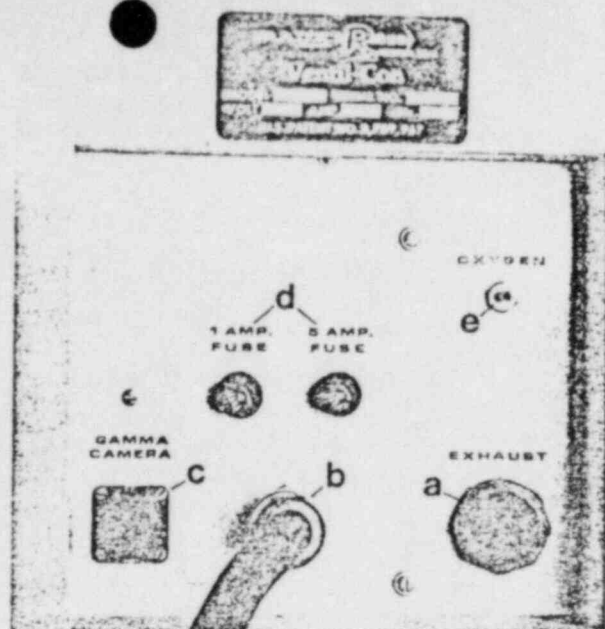

Figure 7. Connection box at rear of Ventil-Con.
- 2.8 The Ventil-Con exhaust connectors are located in the rear of the unit and are for use with 3/4" I.D. x 1" O.D. PVC tubing (Figure 7). A screw-in hose adapter has been provided as an accessory: If 3/4" I.D. tubing is to be used from the Ventil-Con to the external trap or exhaust system, screw the male hose adapter into the female (3/4" pipe thread) fitting on the rear panel and connect the exhaust tubing. If larger I.D. tubing is desired, use a reducer adapter for the tubing I.D. desired. If the Ventil-Con is to be used with the Radx Xenon Gas Trap an interface tube is available as catalog number 127.
2.9.1 At the rear of the unit is a male connector marked "oxygen" for 11/64" I.D. tubing. (See Figure 7.) Join the O2 supply to this connector with appropriate diameter tubing. It may be necessary to clamp the 11/64" tubing to the male hose connector of the flowmeter on the external O2 supply.
4.2.1.1 "Stabilization/Xenon Washout" Loop - When the patient is on this loop, room air is inhaled through the intake port's one-way valve. The exhaled gases pass through a one-way exhaust valve and out through the Ventil-Con's exhaust tube (Refer to Figure 7). This loop is utilized while the patient is reaching stabilization and also during the washout phase of the study.